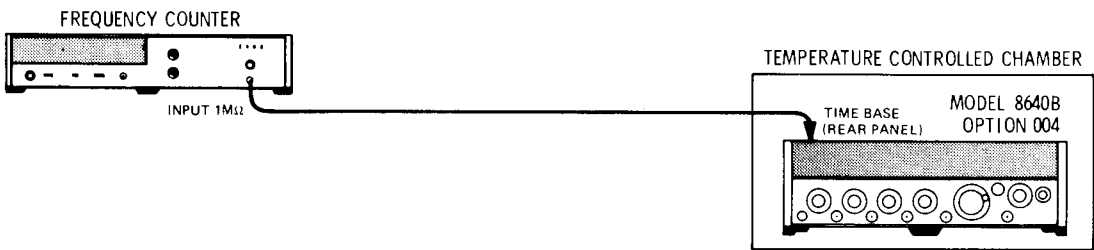

Figure 4-33. Internal Reference Accuracy Test Setup
- 1, Connect equipment as shown in Figure 4-33. Check that TIME BASE REF INT/EXT switch on the rear panel is set to INT.